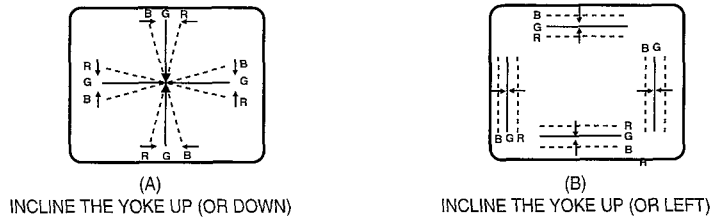

FIG. 2 CIRCUMFERENCE CONVERGENCE BY DEF. YOKE
3. Tilt the deflection yoke up and down, and insert tilt adjustment wedges 1 and 2 between the deflection yoke and the CRT until the misconvergence illustrated in figure. 2 (A) has been corrected.
4. Tilt the deflection yoke right and left, and insert tilt adjustment wedge 3 between the deflection yoke and the CRT until mis-convergence illustrated in figure. 2 (B) has been corrected.